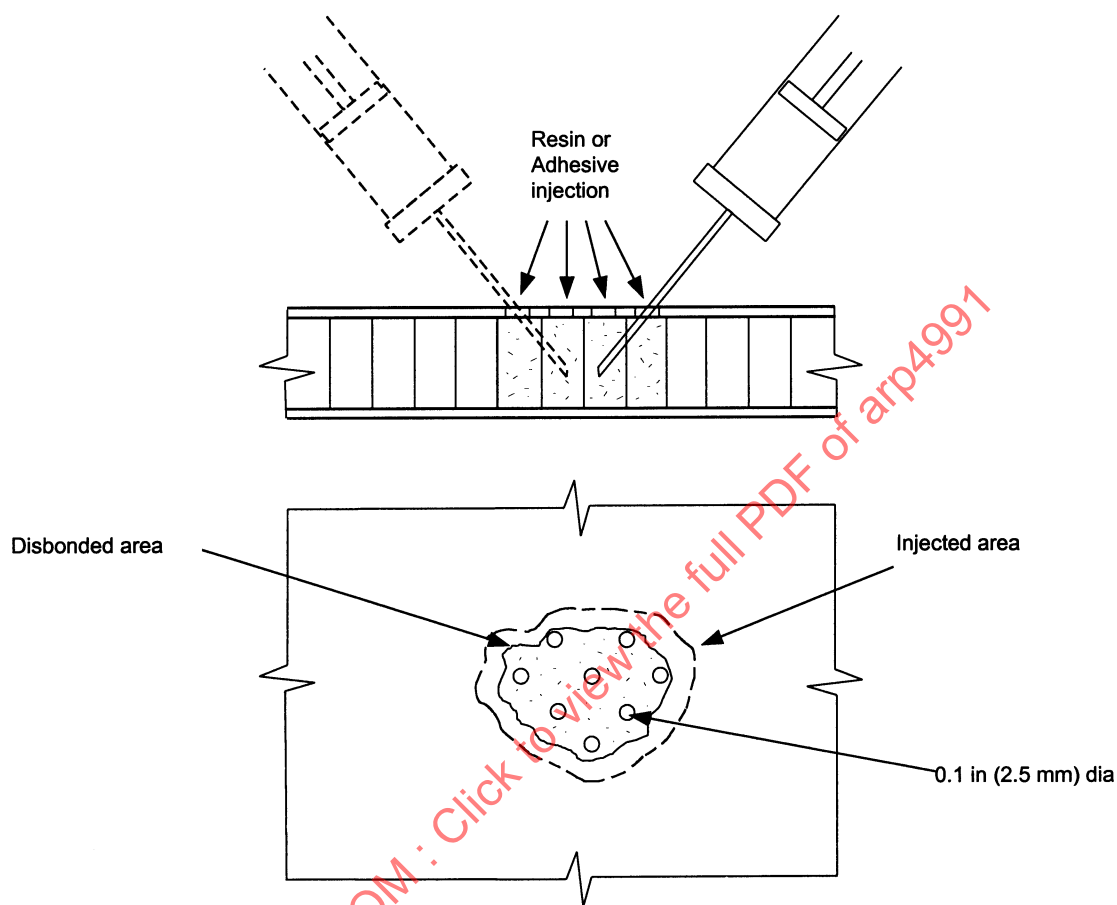

FIGURE 2 - Restoration With Resin Method
- 5.1.3 Core Filling With Resin Method (Figure 2):